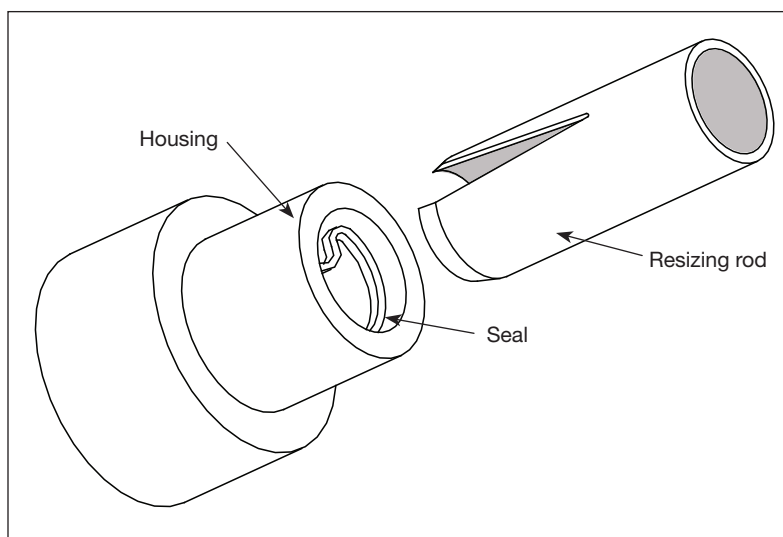

Figure 2-24. Rod seal installation
5. For PTFE seals, after unfolding the seal in the groove, use a resizing tool (Figure 2-24) to re-expand the seal.